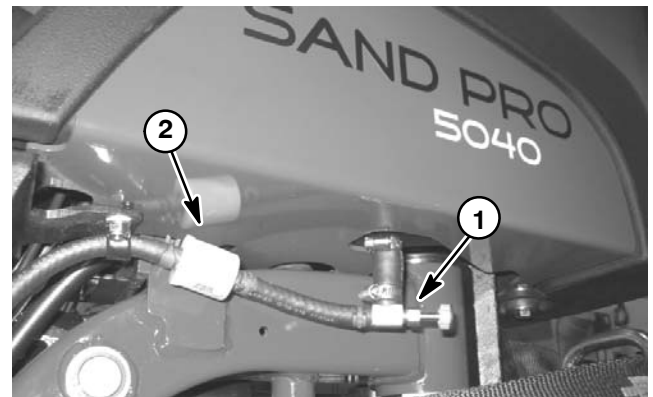

Figure 7
2. Close fuel shut off valve (Fig. 7). Disconnect fuel hose from fuel filter inlet.